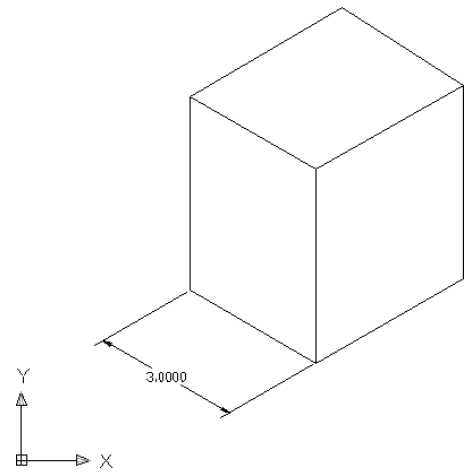

Figure 10.23
3. At the **Enter obliquing angle (Press ENTER for none):** prompt, enter an angle value appropriate to your drawing. The dimension skews so that the extension lines are at the angle you entered (see Figure 10.23).